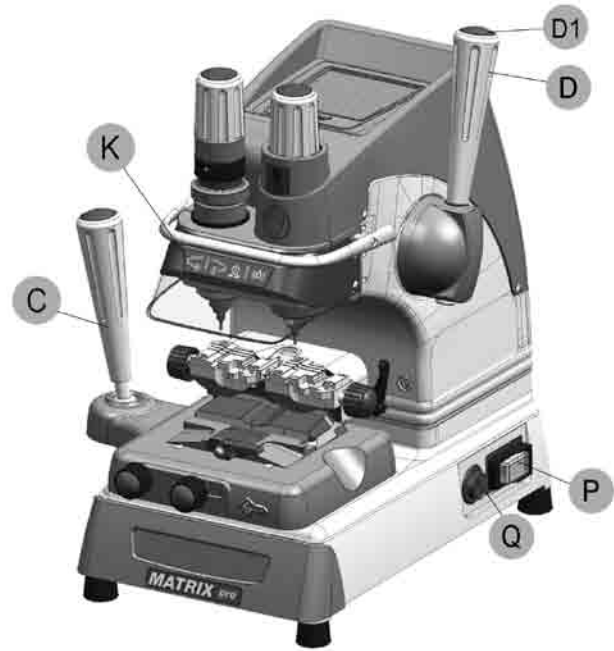

Fig. 12
- 1) press the luminous switch (Q) to power the motor.(Fig. 12).
- 2) Press the push button (D1) on the vertical axis lever (D) and lower the lever.